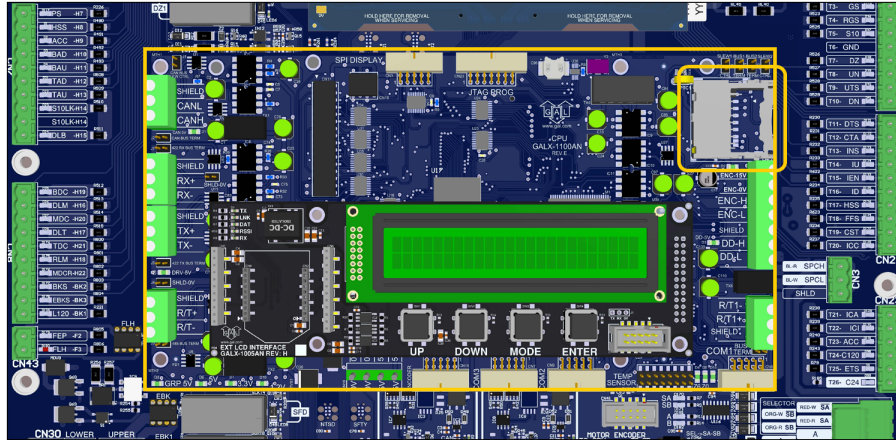

Figure 1: SD card slot location on GALX-1100AN CPU board and pushbuttons on LCD Interface board.
2. Reference Figure 1 for the SD card location. **While the controller is still powered on**, carefully remove the existing SD card and fully insert the new SD card in the GALX-1100AN CPU board. **Leave the new SD card installed and complete the steps below:**